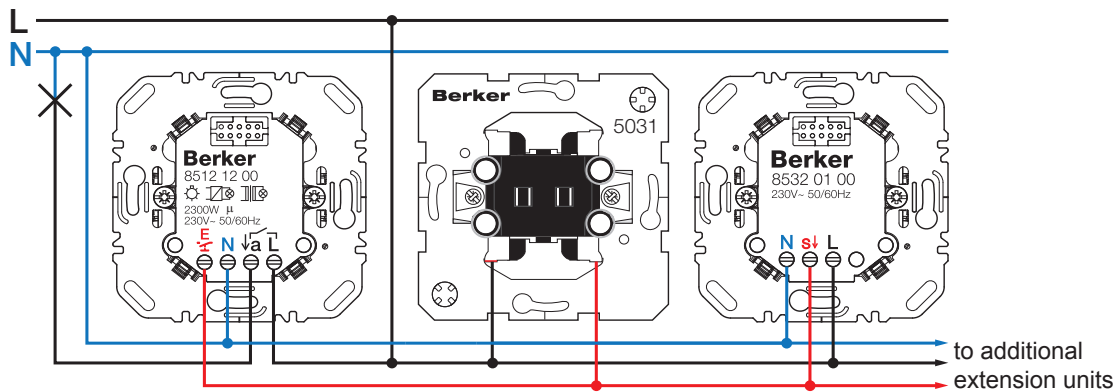

Figure 3: Circuiting diagram with extension unit
- Circuit switch insert and optional extension units according to the circuiting diagram (Figure 3 or 4).